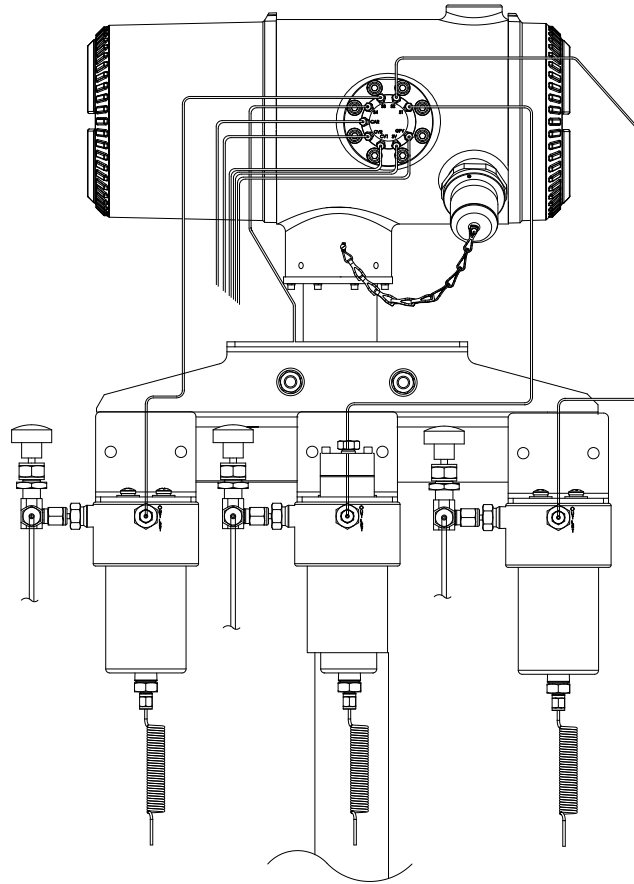

Figure 3-25 Sample Conditioning Module Line Connections
- 1) Locate the sample input fitting on the sample conditioning module (see Figure 3-25).